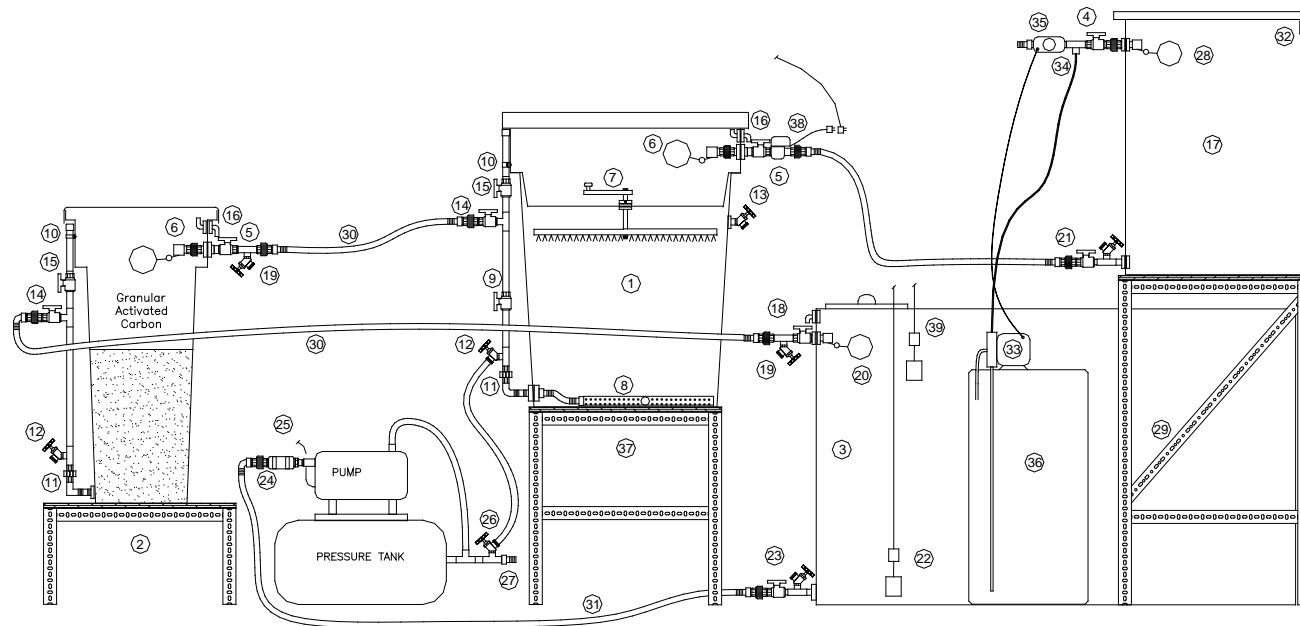

Figure 1 - Automated System Layout - Chemical Oxidation and GA Carbon Filter
- **Refer to Figure 1 to find the locations for all system components.**